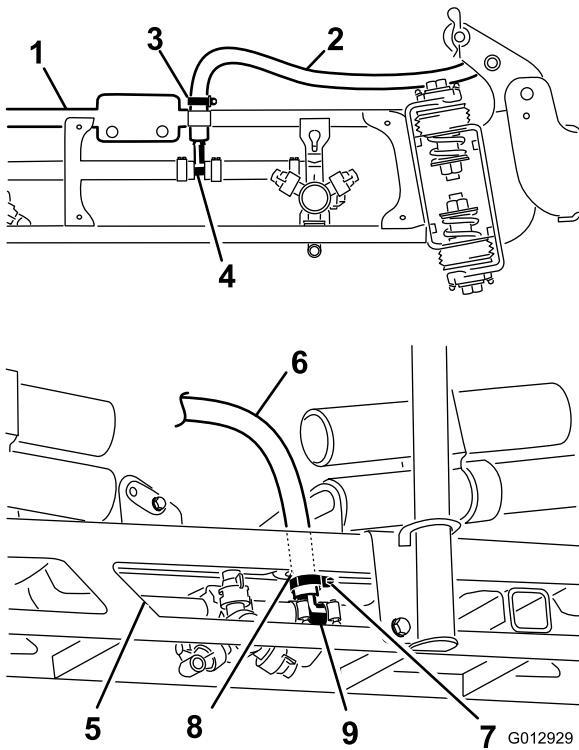

Figure 32
3. Use liquid soap to coat the hose barb of the tee connections on both extension booms (Figure 32). Install the boom extension hose over the barb and secure it with a clamp.